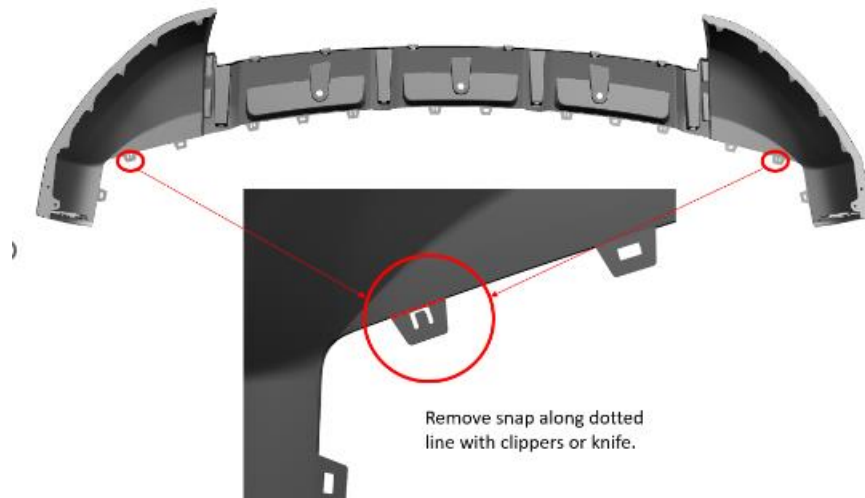

Fig 8
6. Carefully remove the outer front fascia clip shown in Fig 8 with a knife.